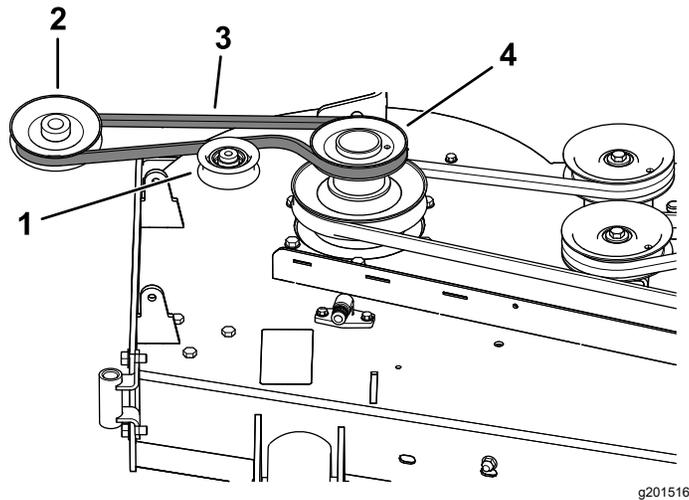

Figure 25
1. If necessary, install the belt onto the blower pulley (Figure 25).
1. Install the belt around the blower pulley (Figure 25 and Figure 26); refer to 10 Installing the Blower Assembly (page 14).
4. Route the belt around the drive pulley as illustrated in Figure 25 and Figure 26.